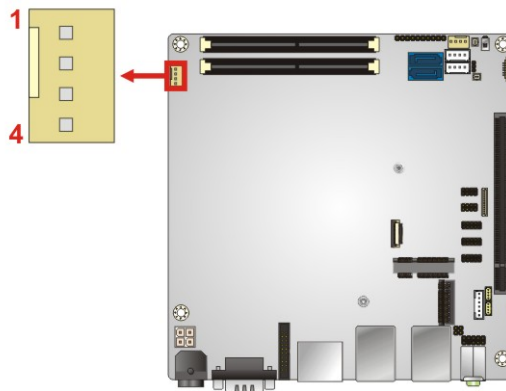

Figure 3-10: CPU Fan Connector Location
- CN Location:** See **Figure 3-10**